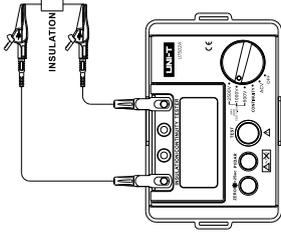

Figure 3
**10. Insulation Resistance Measurement (See Figure 3)**